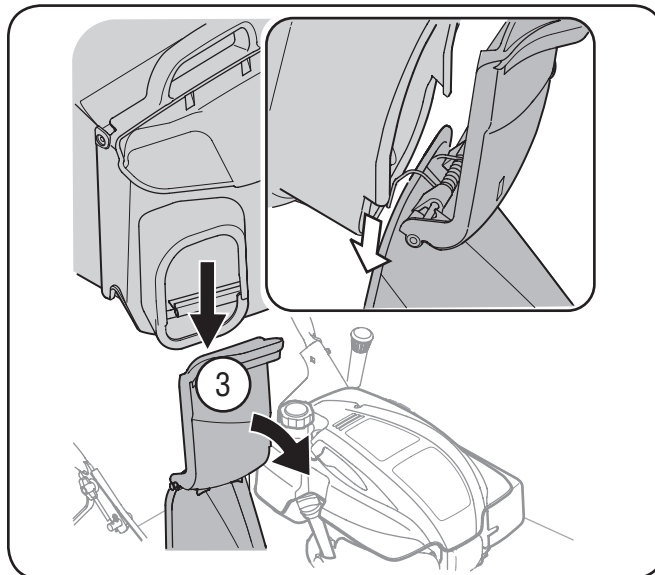

Figure 3-5
3. Lift chute door on the grass bag adapter and slide grass bag onto the adapter. See Fig. 3-5.